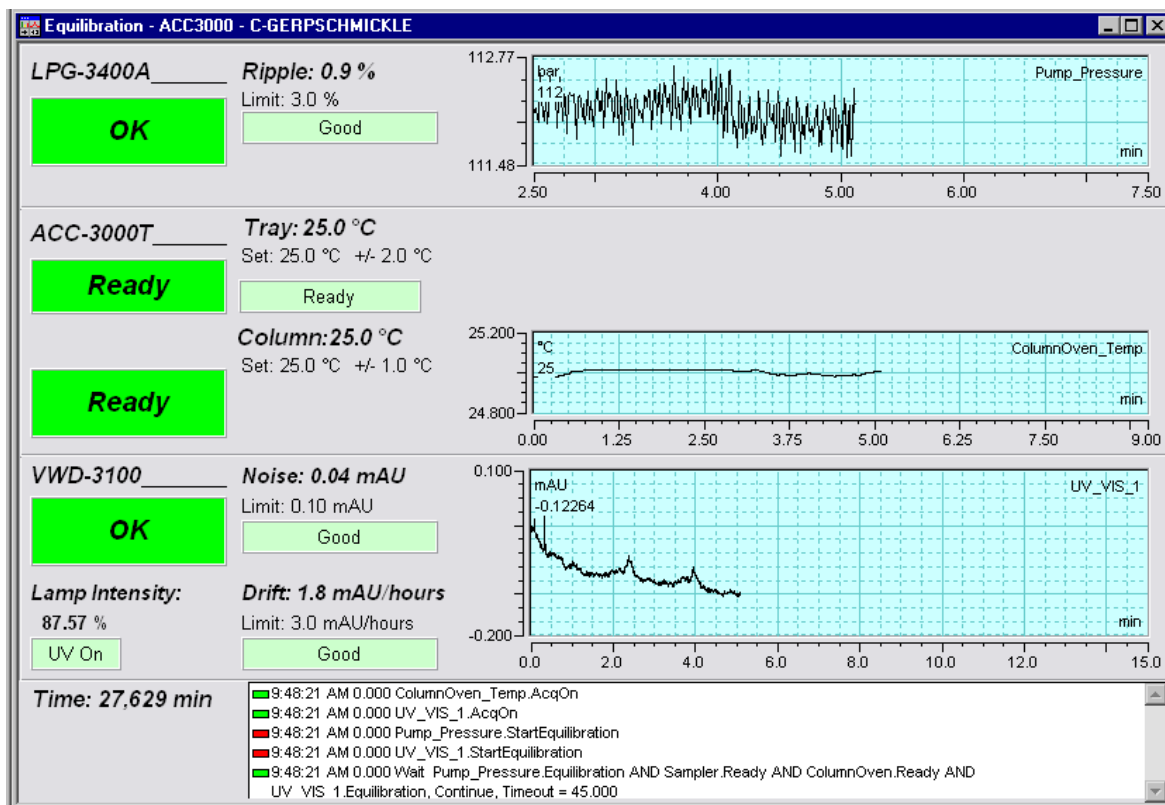

Fig. 25: Equilibration panel
- ◆ Opens the equilibration control panel for the instruments in the timebase (→ Fig. 25, page 61).